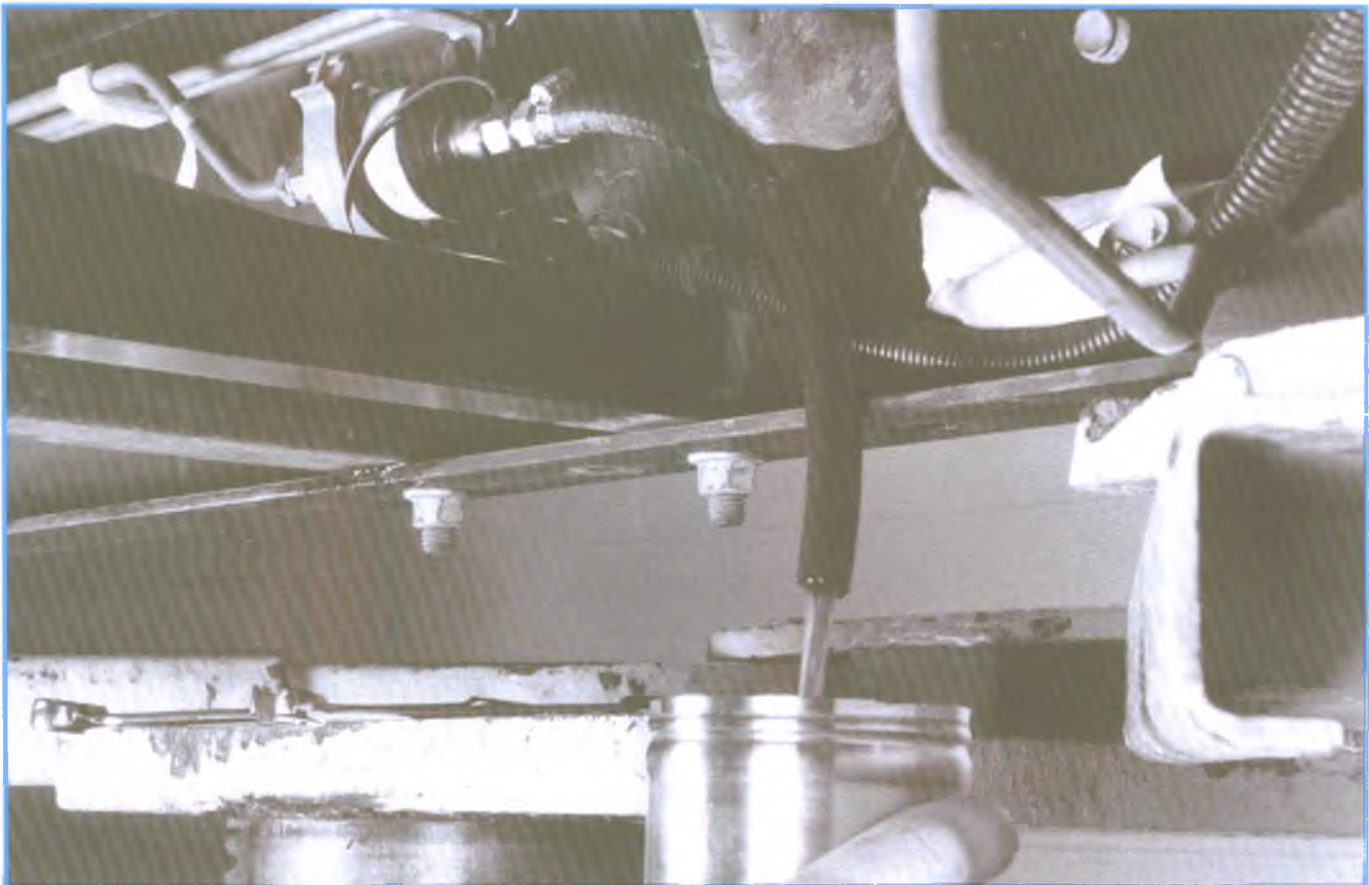

Figure 7-62, Volume Check at Lift Pump Outlet (1)
- D. Crank the engine and measure the fuel volume (see Figure 7-62):